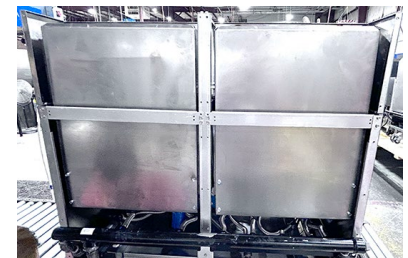

Figure 6
8. Remove the back of the fryer (see Figure 6).